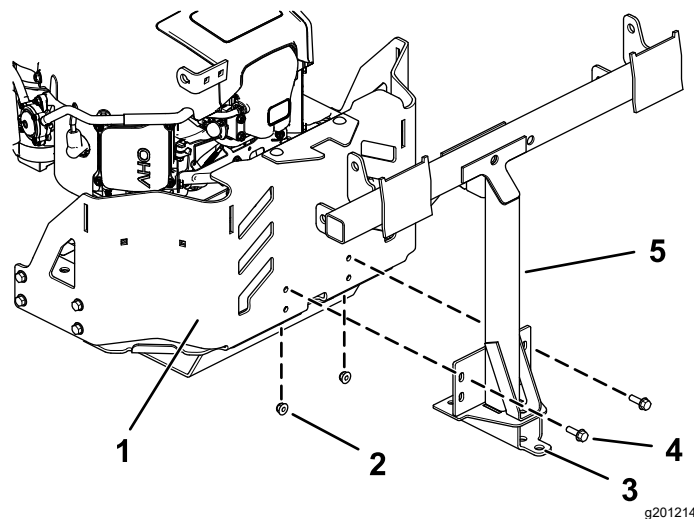

Figure 15
- 4. Loosely install the pivot frame to the machine frame using 2 bolts (5/16 x 1 inch) and 2 locknuts (5/16 inch) as shown in Figure 15.
- 6. Tighten the 2 bolts (5/16 x 1 inch) and 2 locknuts (5/16 inch) as shown in Figure 15.